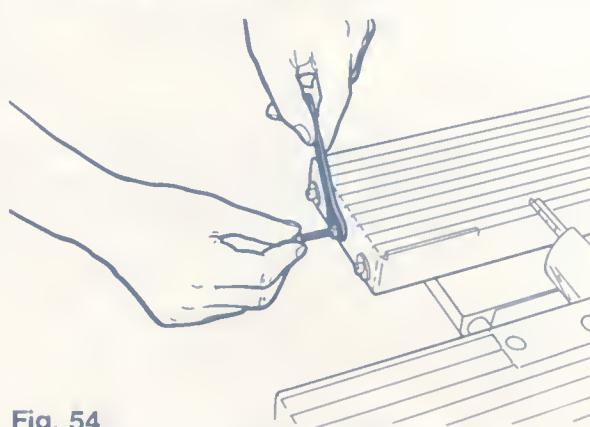

Fig. 54
Be sure to loosen the main locking lever turn elevating handwheel (B) clockwise to lower the table and turn it counterclockwise to raise it (Figure 54). It is best to use handwheel (A) Figure 1 on page 6) for fine adjustments.